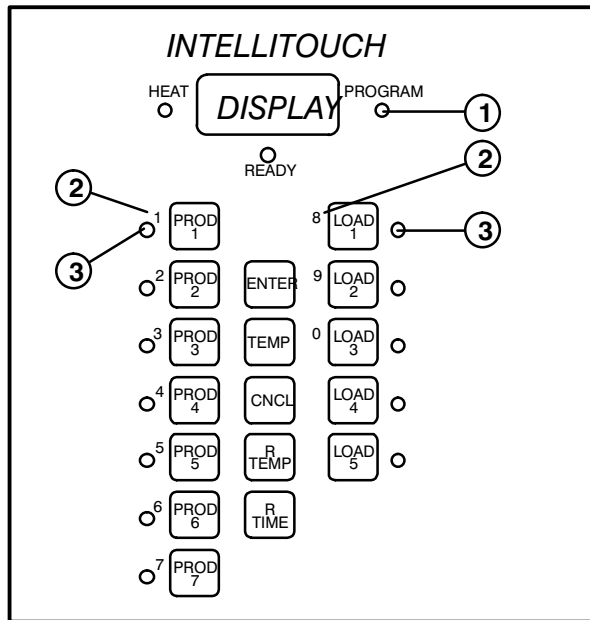

FIGURE 9
NOTE: The LED's (3) are located next to the product and load keys. The LED identification numbers (2) are located to the left of the product and load keys. See FIGURE 9.